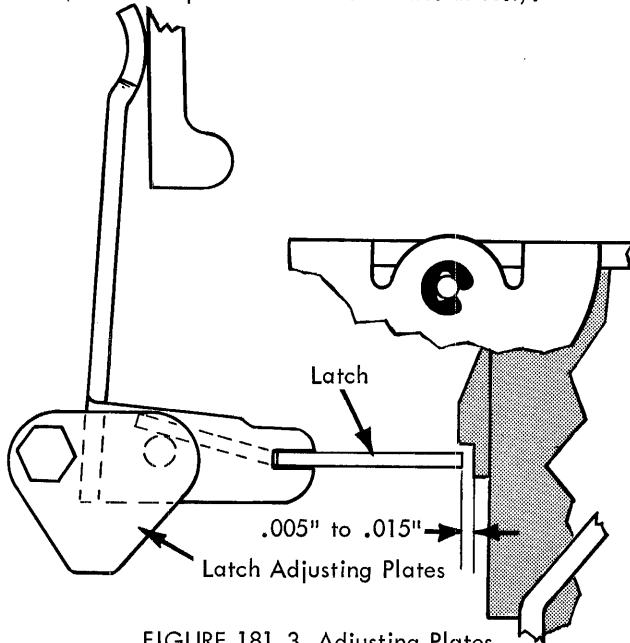

FIGURE 181.3 Adjusting Plates
3. Adjusting Plates (Fig. 181.3) - The actuator latch adjusting plates should be adjusted so that the actuator latches clear the rise on the actuator by  $.005''$  to  $.015''$  (With the operational cams latches at rest).